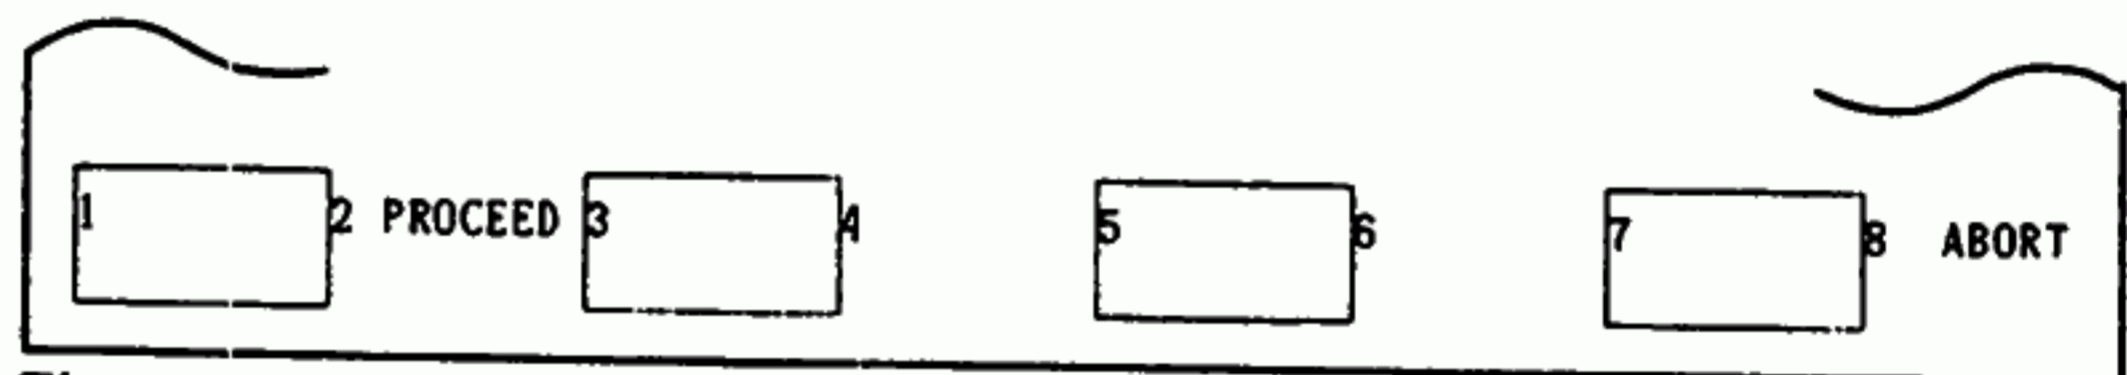

Fig. 4.46
4. To stop the save process during save execution, depress **STOP** key (Fig. 4.44). The labels shown in Fig. 4.46 are displayed. Depressing **PROCEED** key causes the saving process to resume, and depressing **ABORT** key returns to the display shown in Fig. 4.41.